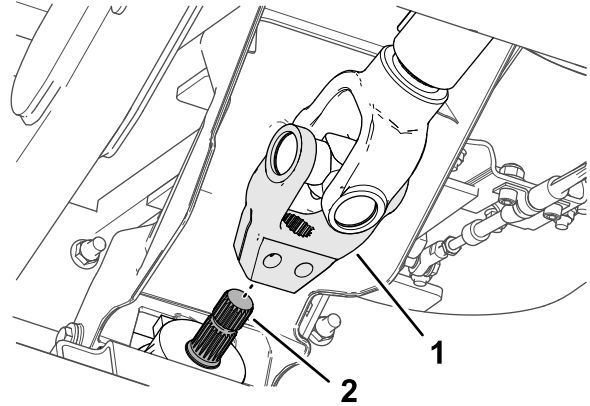

Figure 16
4. Align the splines in the driveshaft yoke onto the splines of the attachment input shaft (Figure 16), and slide the yoke over the shaft.